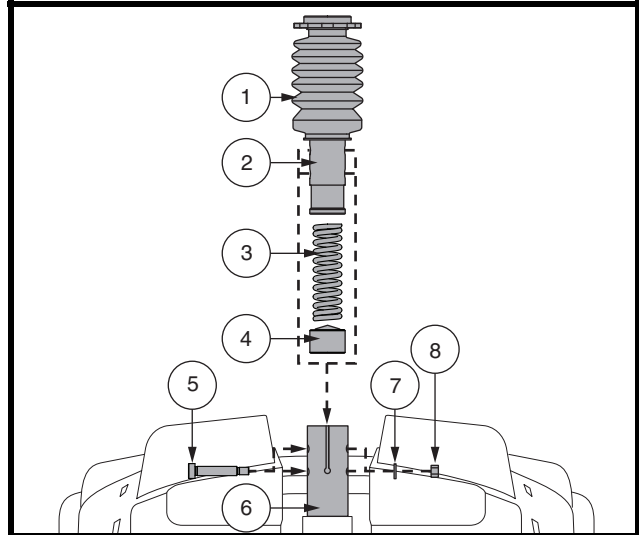

Figure 17. Seat Height Adjustment - Comfort Seat Post
4. Push down on the seat post while loosening and removing the shoulder bolt, washer, and nut. **See figure 17.**
6. Install the desired spring. **See figure 17.**